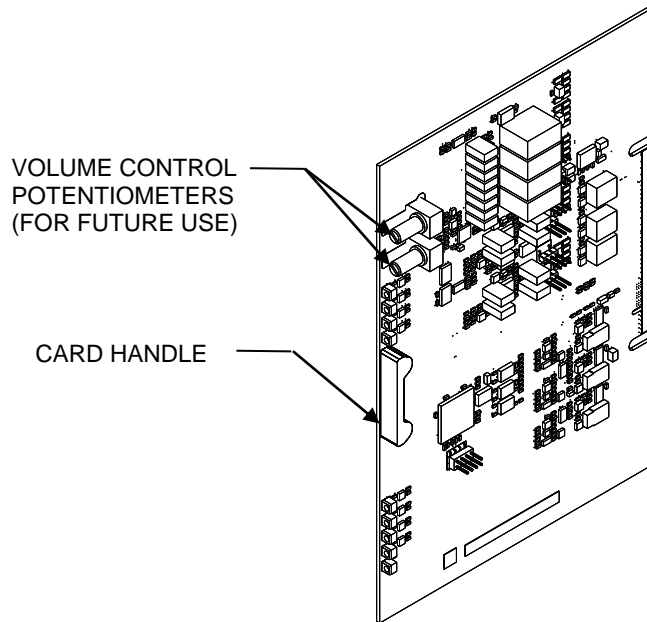

Figure 5
3. Refer to Figure 5. Holding the VCC2002-A1 so the two volume control potentiometers are on top of the card, **gently** insert the card into the backplane connector marked X201 (furthest left position of the card cage). Use the raised channel guides on the inside top and bottom of the Card Cage to guide it into place.